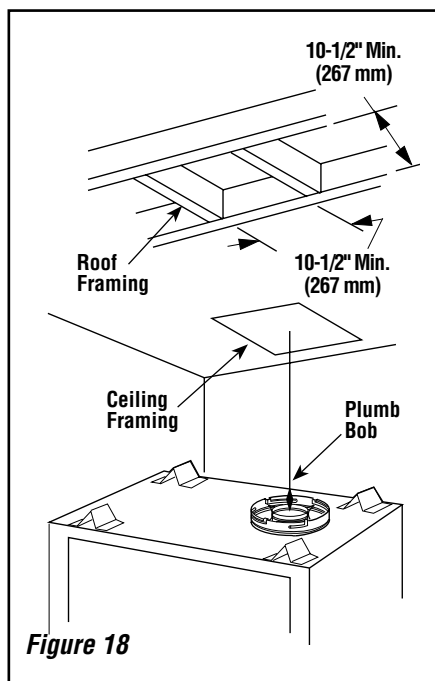

Figure 18
A. Frame ceiling opening - Use a plumb line from the ceiling above the appliance to locate center of the vertical run. Cut and/or frame an opening, 10-1/2" x 10-1/2" (267 mm x 267 mm) inside dimensions, about this center mark (**Figure 18**).